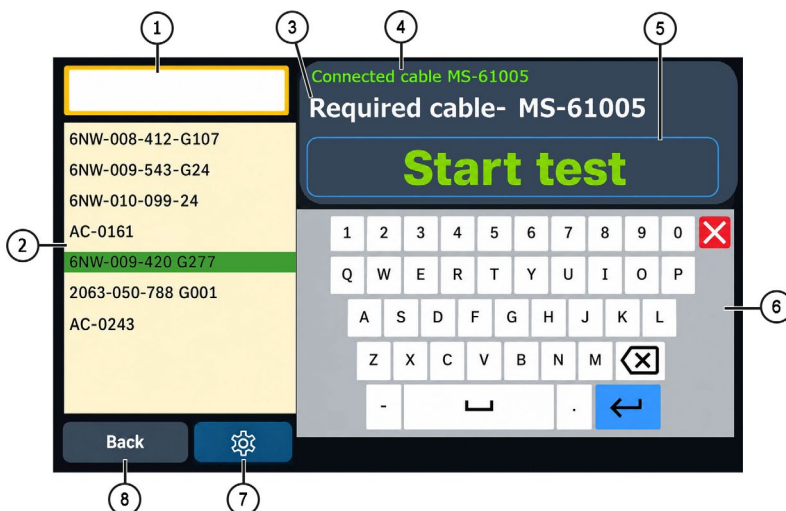

Figure 9. Actuator search menu in the database
1.1. The **Database** menu window (see Fig. 9) contains: